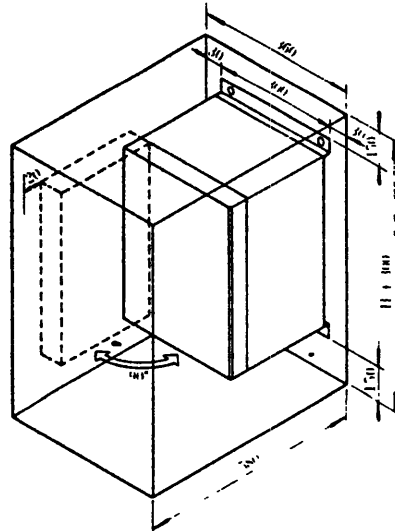

Fig. 2.2 Controller Mounting Space (Enclosed Type)
- . Fig. 2.2 shows the mounting space.